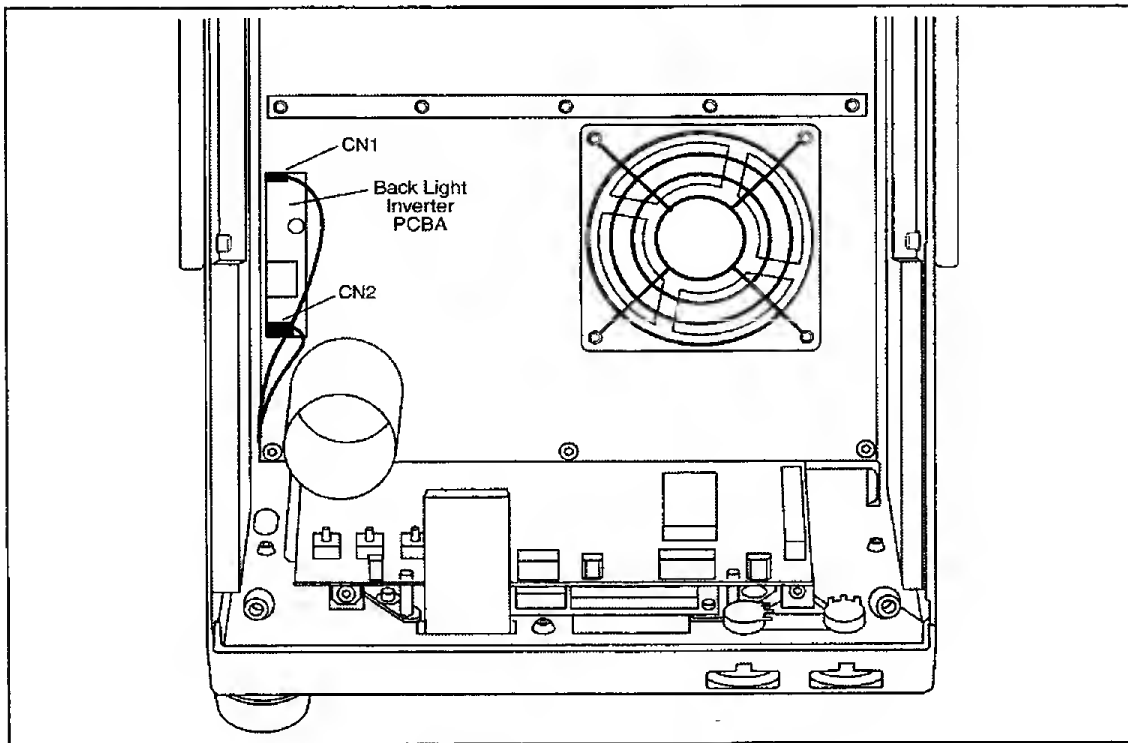

Figure 7-3: Backlight Inverter PCBA Connections
2. Disconnect both cables from the Backlight Inverter PCBA (see Figure 7-3).
(Refer to Figure 7-3)
9. Connect the white and pink cable to connector CN2 on the Backlight Inverter PCBA (see Figure 7-3).
10. Connect cable (BCKLT) to connector CN1 on the Backlight Inverter PCBA (see Figure 7-3).